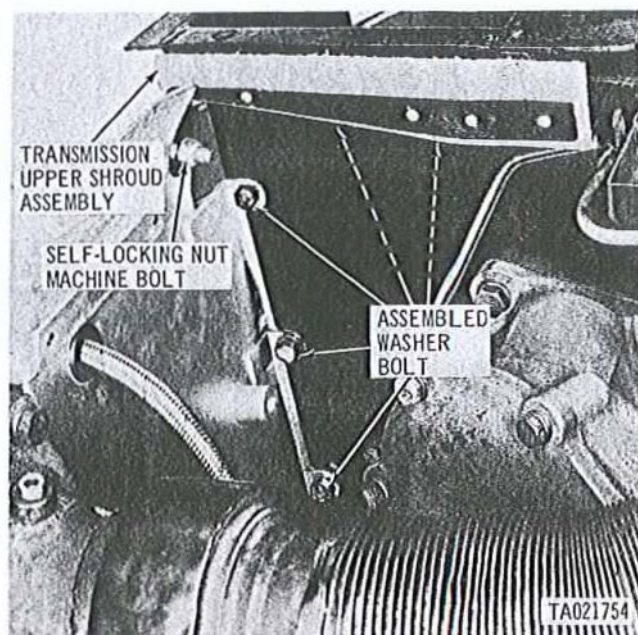

Figure 2-73. Disconnecting or connecting oil cooler support frame, model AVDS-1790-2C engine.
(1) Remove cooling fan vanes, cooling fans, engine upper covers and cooling fan shroud. Refer to paragraph 2-21a.
(2) Remove oil coolers. Refer to paragraph 2-27a.
(3) Remove five assembled washer bolts (fig. 2-73) and one self-locking nut and bolt and remove transmission upper shroud assembly.
(6) Install transmission upper shroud assembly and secure with five assembled washer bolts (fig. 2-73).
(7) Install oil coolers, refer to paragraph 2-27b.
(8) Install cooling fan shroud, engine upper covers, cooling fans and cooling fan vanes, refer to paragraph 2-21b.